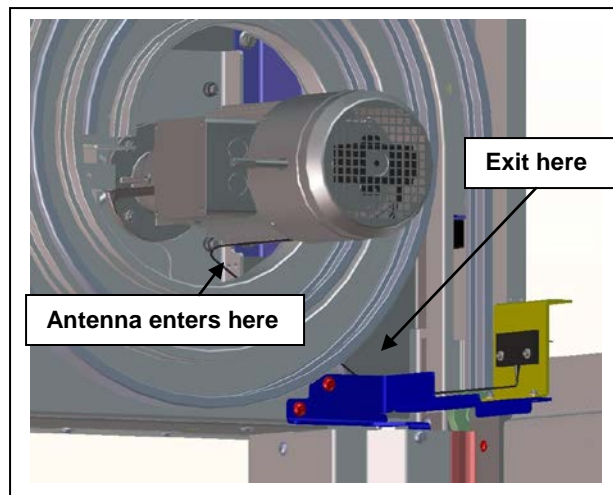

Figure 48
3. At this time find the wireless antenna attached to the motor junction box and cut it free from motor junction box. The antenna must be routed back through the head assembly. Pass the antenna through the opening near the motor and exit out the top of the side column. The tan cable needs to follow closely to the inside of the head assembly. Use cable ties to hold the cable away from moving objects. (See Figure 48.)
4. Attach the wireless antenna to the Z bracket using the M4 16MM screws provided with the washers and M4 locking nut. DO NOT over tighten the screws or damage to the antenna could occur. Simply secure the antenna to the bracket. The tan cable MUST exit towards the floor, from the antenna, as shown in figure 48.